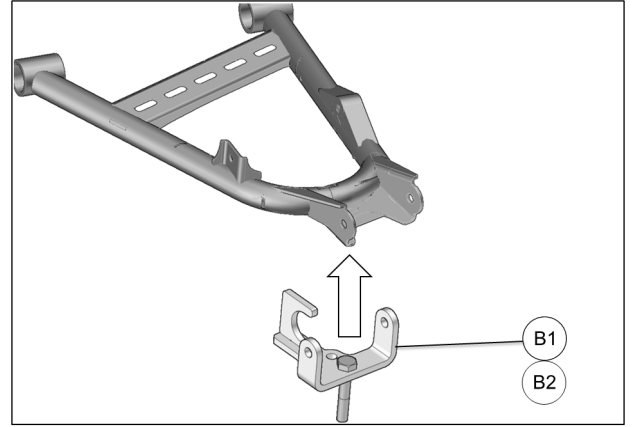

Fig. 7
6. Install anchor bracket (**B1-B2**) under the suspension arm. See Fig. 7